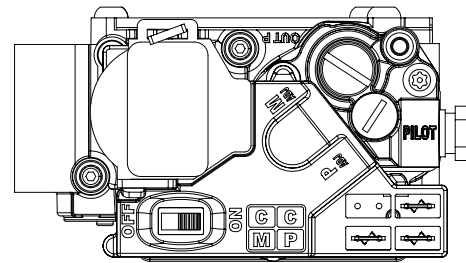

Figure 4 – Top view of gas valve
Before startup, refer to and follow the appliance manufacturer's wiring diagram. Ensure that the Main (M), Pilot (P) and Common (C) terminals of the gas control are connected to their proper lead wires. Refer to Fig. 4 for terminal identification.